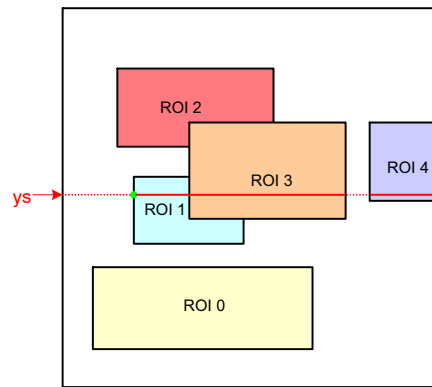

Figure 26. Scanning the Image Array with Five Windows
Figure 26 illustrates a practical example of a configuration with five windows. The current position of the read pointer (ys) is indicated by a red line crossing the image
- The read pointer is not necessarily incremented by one, but depending on the configuration, it can jump in y–direction. In Figure 26, this is the case when reaching the end of ROI0 where the read pointer jumps to the y–start position of ROI1